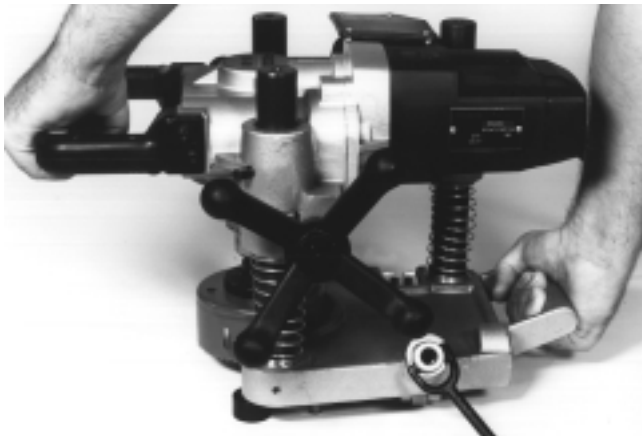

Figure 4 – Carrying the HC-450
7. Lift HC-450 using front and rear carrying handles. Rear handle can be used for a rope and pulley system when working on existing overhead pipe. (See Figure 4.) Do not lift HC-450 above your shoulder. (Figure 5)